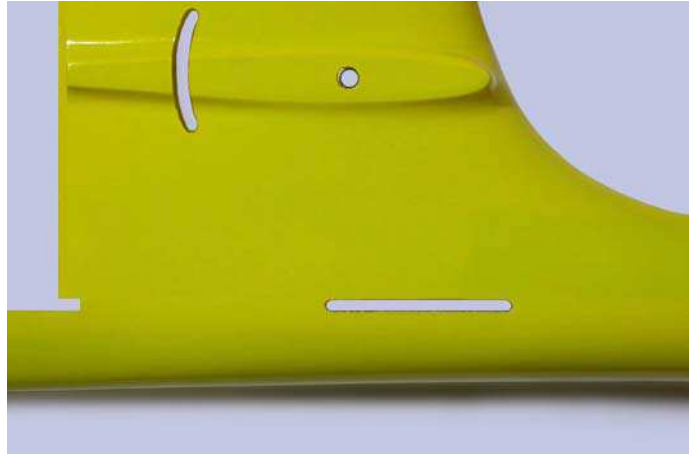

Fig.32: .Final result.
- check the correct alignment between the two openings (see figure 32) and (eventually) correct.